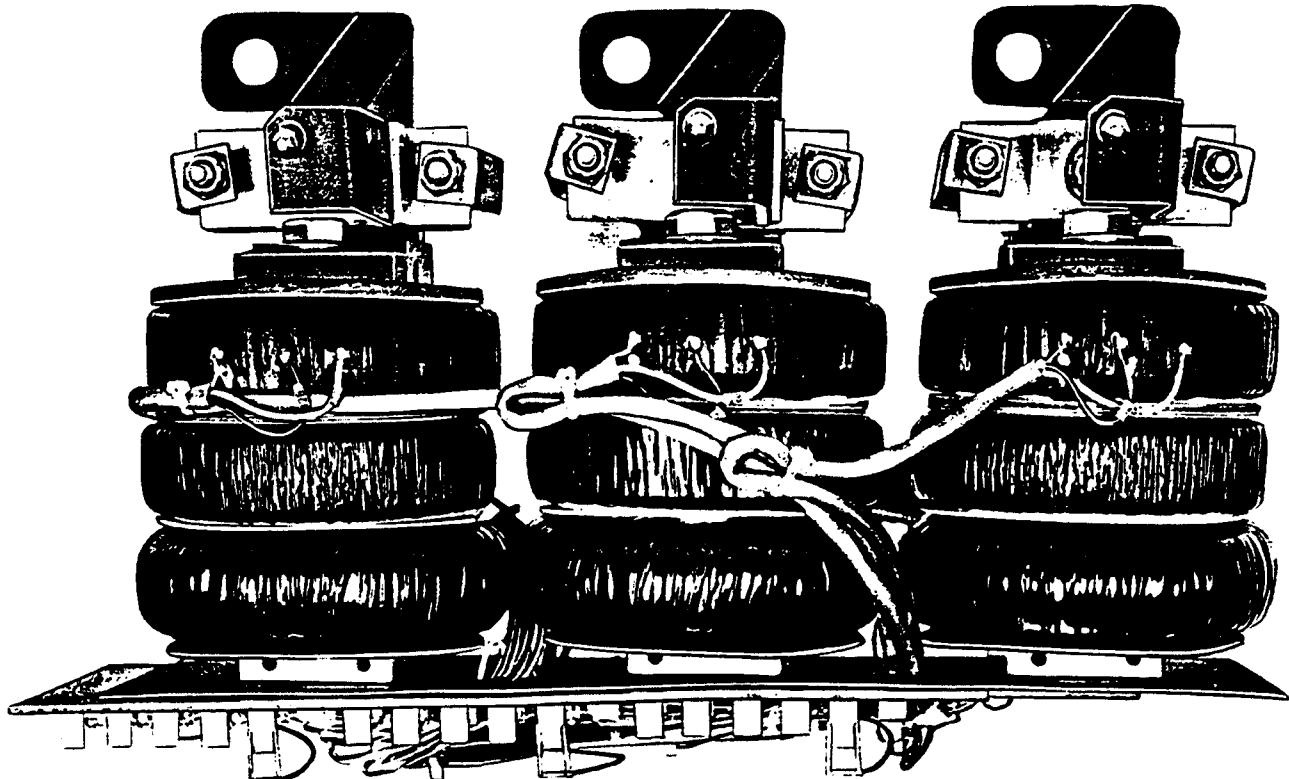

Figure 14. (8041866) Magnetic Coils
1. The magnetic coils around the breaker conductors (Figure 14).